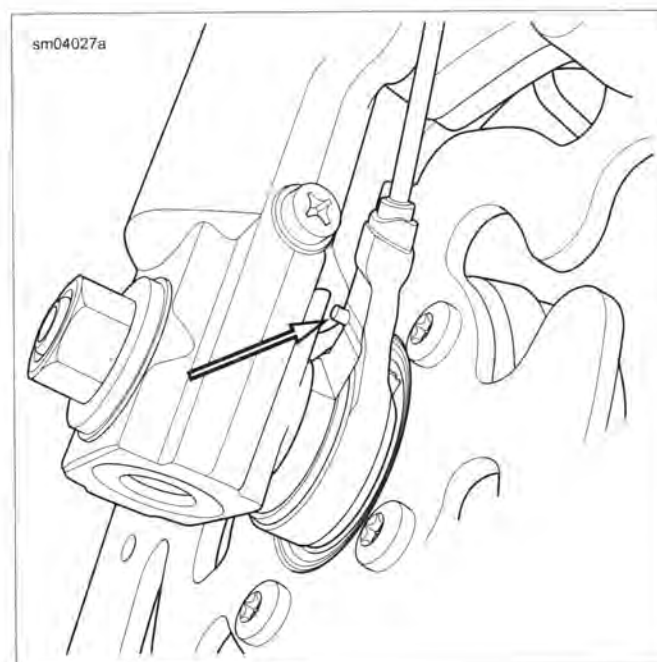

Figure 2-13. Front Wheel Speed Sensor Index Pin (ABS Models)
- ABS models:** See Figure 2-13. Rotate front wheel speed sensor counterclockwise until index pin contacts shoulder on left fork slider.